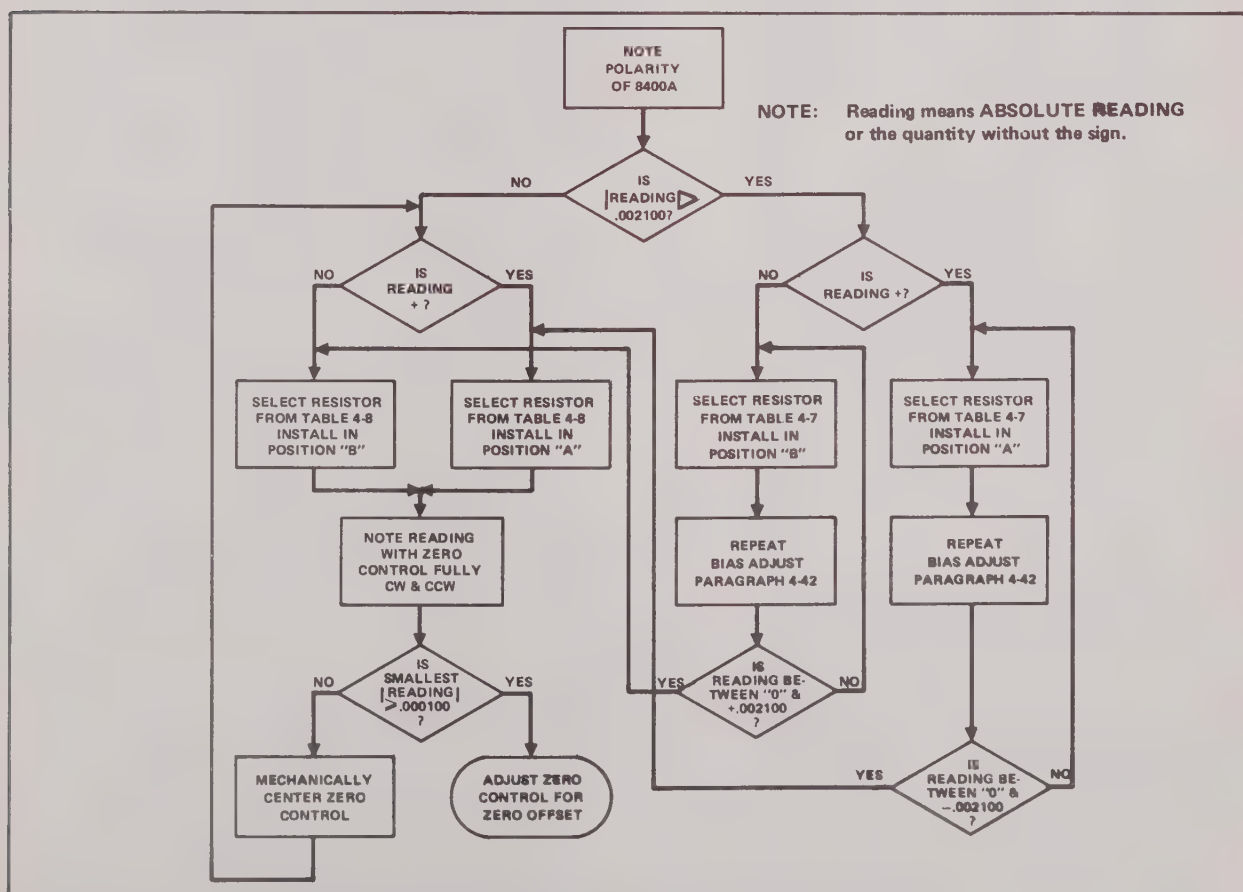

Figure 4-1. OFFSET RESISTOR SELECTION PROCEDURE
- 4-46a. Perform the test outlined in Figure 4-1 (Resistor Selection Procedure).